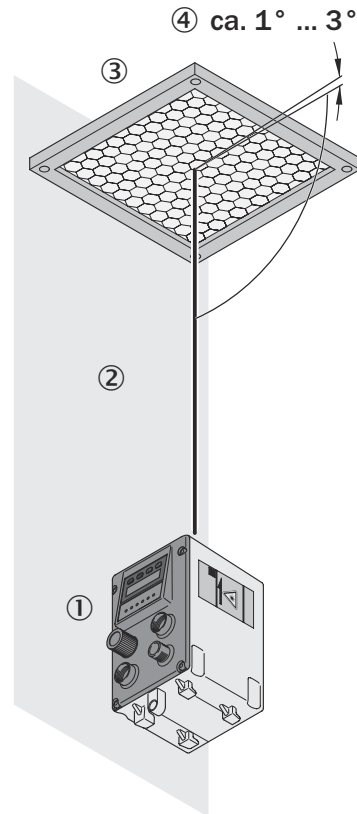

Figure 7: Reflector tilt for shiny surfaces and vertical stroke axis
- If the sensor is mounted in the stroke axis of an automated storage and retrieval system, tilt the reflector away from the mast system see figure 7, page 21.